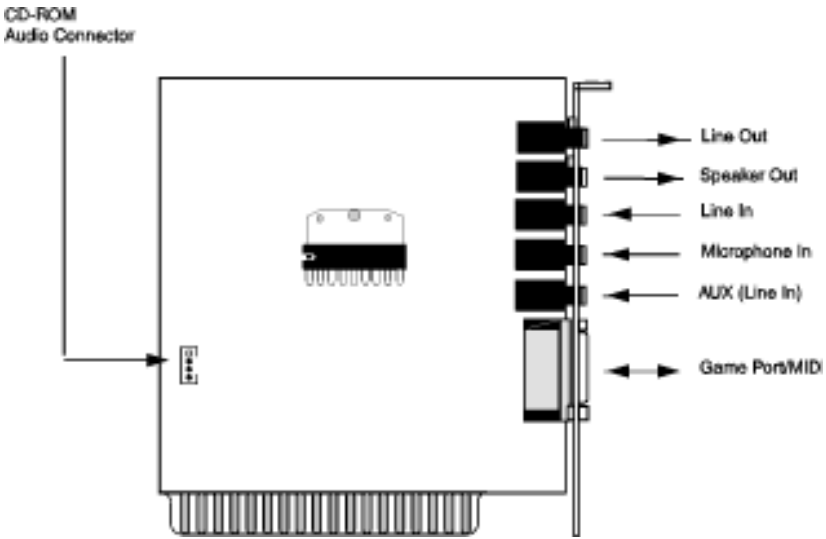

Figure 3-4: Connecting the Sound Interface Card
3. Insert the sound interface card (refer to Figure 3.4) with the bottom edge level to the slot. *Never insert the card at an angle.*